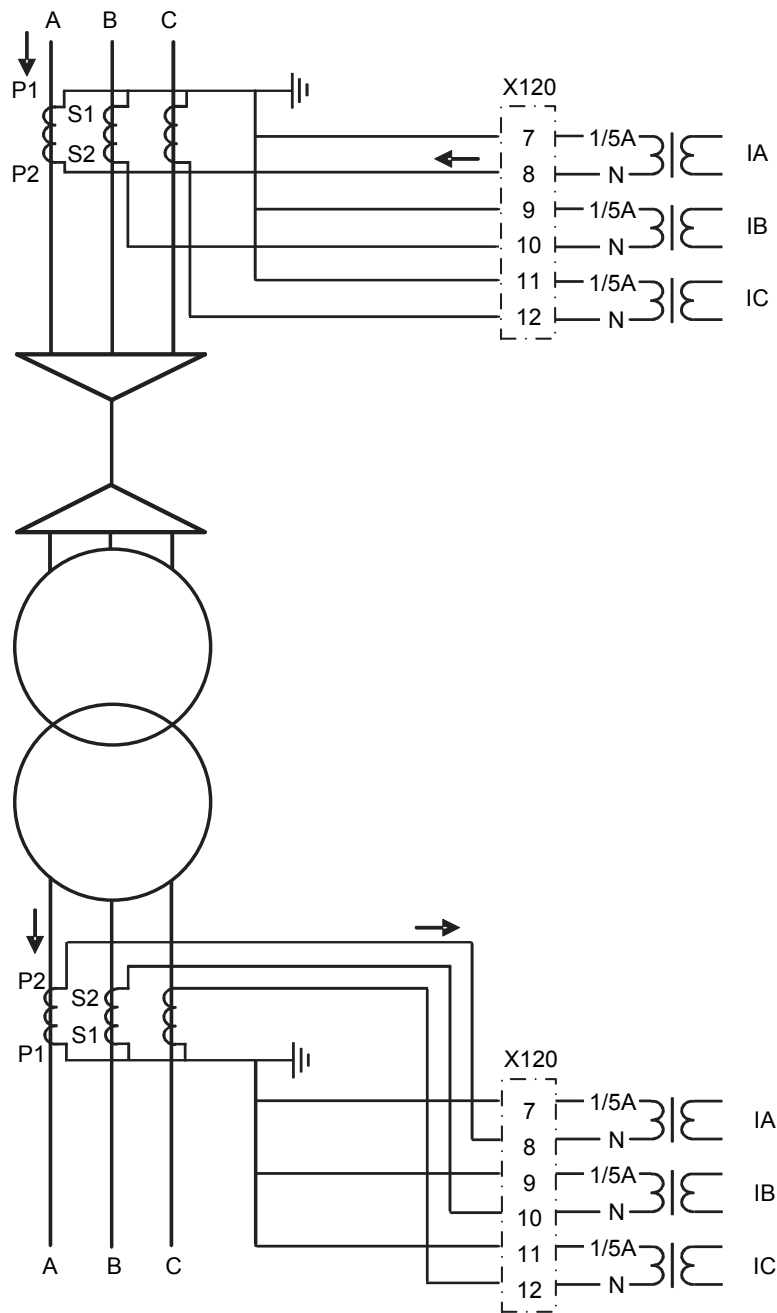
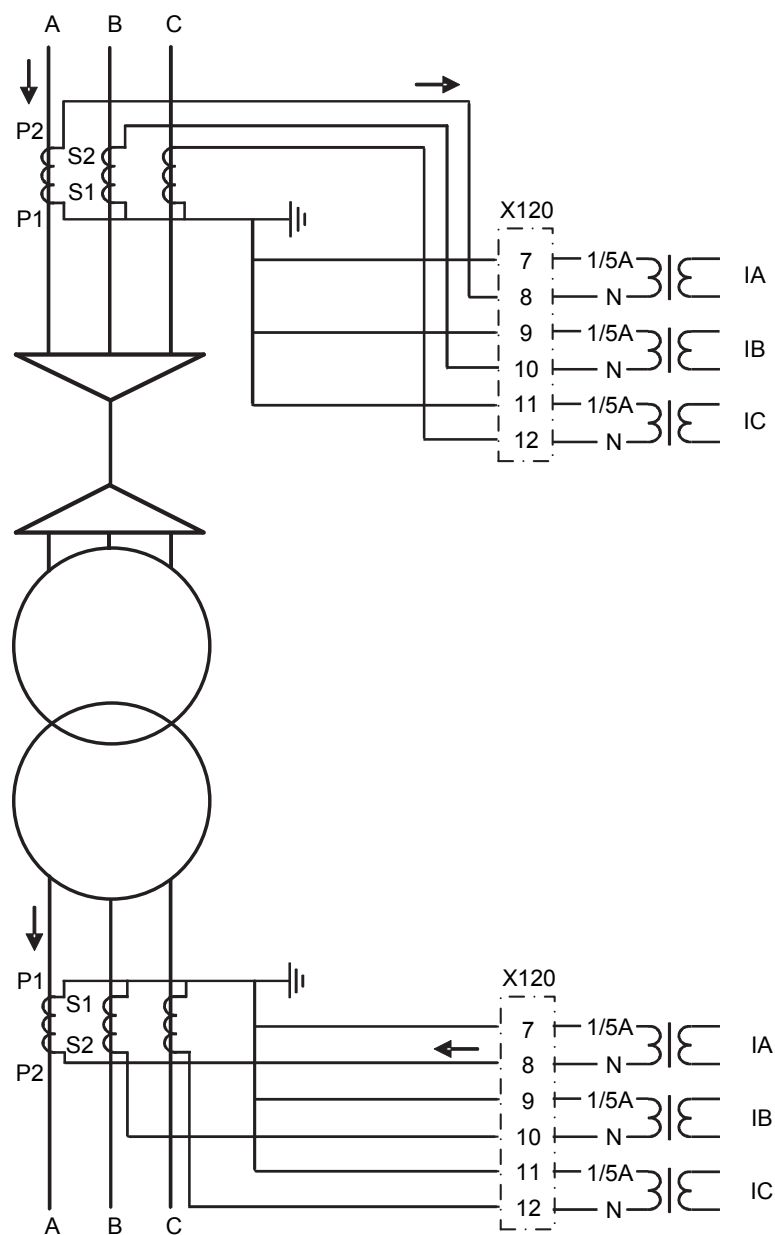

Figure 228: Connection example of current transformers of Type 1
Figure 229: Connection example of current transformers of Type 1
- If the positive directions of the winding 1 and winding 2 protection relay currents are opposite, the *CT connection type* setting parameter is “Type 1”. The connection examples of “Type 1” are as shown in the Figure 228 and Figure 229.